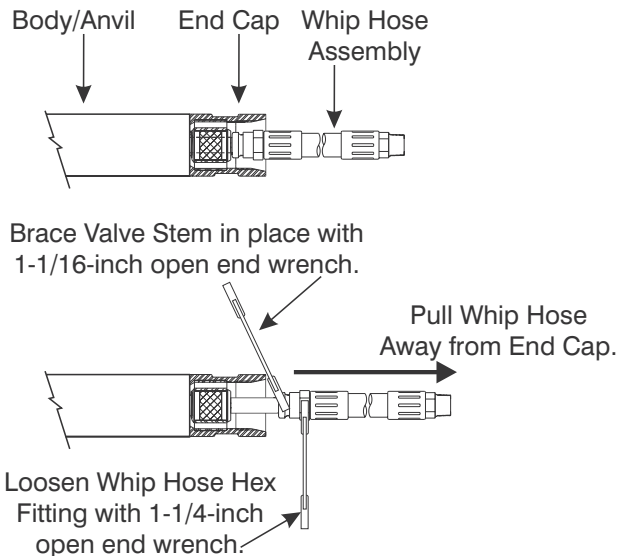

Figure 11-25. Access and Hold the Valve Stem in Position
2. By hand, pull the Whip Hose away from the End Cap (8) until the flats of the Valve Stem (5) are accessible as shown in Figure 11-25.
3. Fit a 1-1/16-inch open-end wrench across the exposed flats of the Thread Adapter (3). See Figures 11-25 and 11-26.
4. Brace the wrench against the edge of the End Cap and pry the Adapter outward with enough force to prevent the Valve Stem from pulling back into the End Cap. See Figures 11-25 and 11-26.
5. By hand, pull the Whip Hose away from the End Cap (8) until the Thread Adapter (3) is accessible as shown in Figure 11-25.